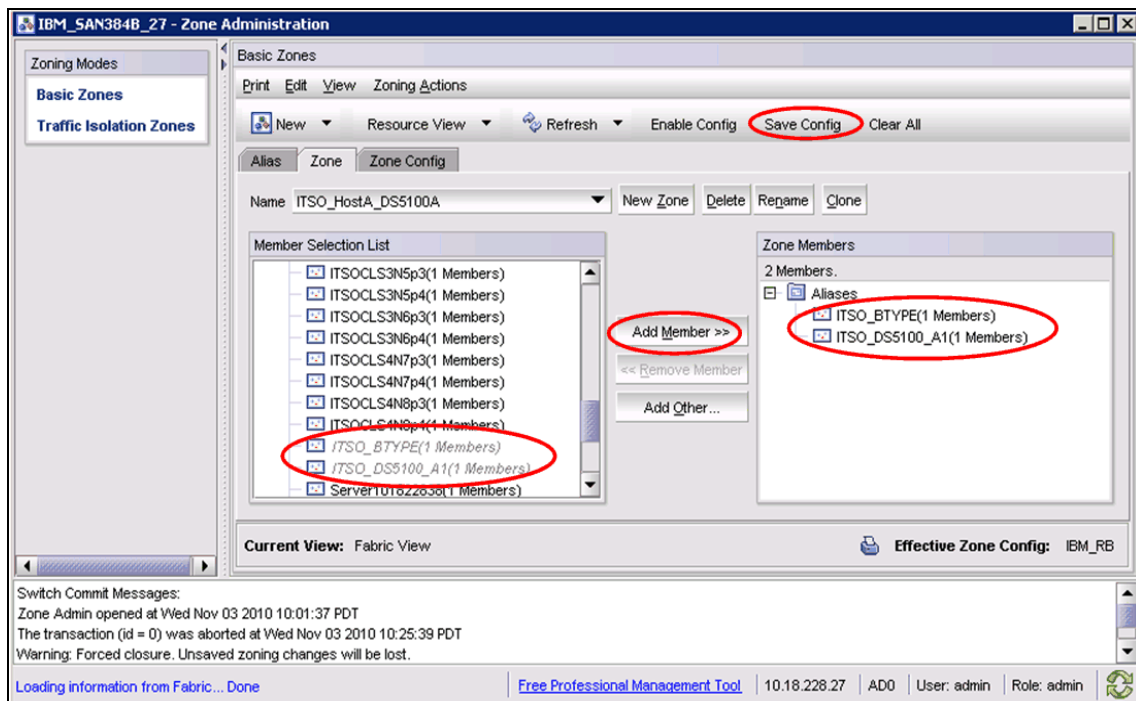

Figure 12-36 Zone members
3. Select an element in the Member Selection List that you want to include in your zone. Note that LSAN zones should contain only port WWN members. The **Add Member** button becomes active. Click **Add Member** to add the zone member. The selected member is moved to the Zone Members window (Figure 12-36).
4. Optionally, click **Add Other** to include a WWN or port that is not currently a part of the fabric. At this point you can either save your changes or save and enable your changes (Figure 12-36).
5. Click **Save Config** to save the configuration changes. without applying them to the fabric. Click **OK** at the next window (Figure 12-36).